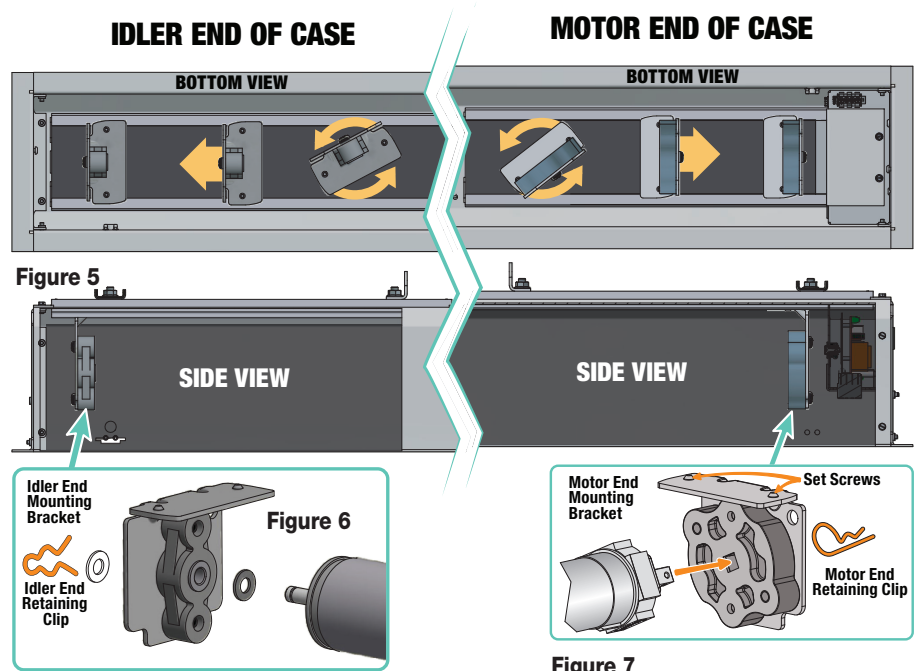

Figure 7
6. Locate retaining clips attached to instruction sheet. Lift roller/fabric assembly into screen housing and engage motor head completely into motor bracket, making sure limit switch adjusting knobs are visible from bottom of screen housing (Fig. 7).